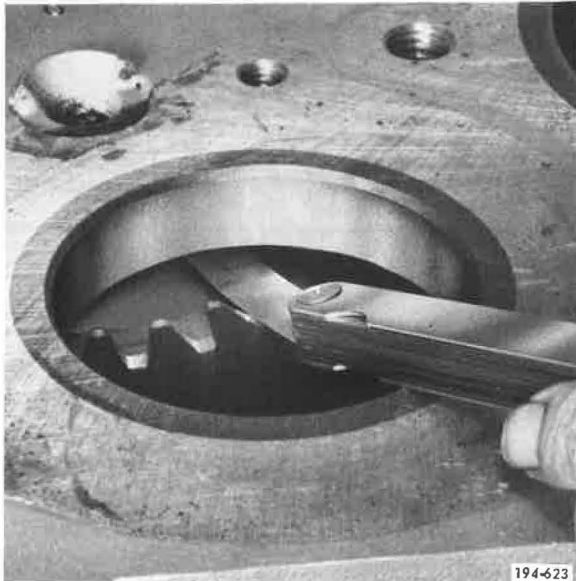

Figure 322. Measuring End Play
8. Measure reverse idler gear end play with a feeler gage. See Figure 322. End play should be 0.003 to 0.023 inches. Refer to Torque and Tolerance Table, Item 23. If end play is not within tolerance, replace thrust washers. If still not correct, replace reverse idler gear. If still not within tolerance, case must be replaced